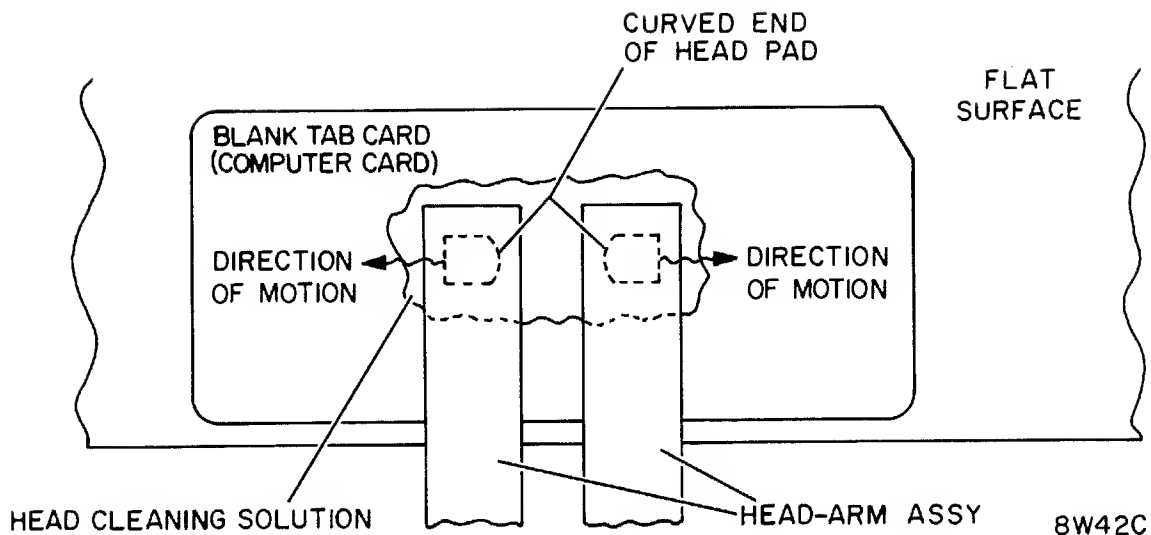

Figure 2-35. Head Cleaning Motion
Refer to figure 2-35 if head cleaning is required and perform the following procedure. Use care not to damage any part of the head arm assembly.
3. Place a blank tab card (see list of Maintenance Tools and Materials) or a new, unpunched, clean computer card with the back side up (printing down) on the clean flat working surface as shown in figure 2-35.
5. Very carefully place the head pad flying surface on moistened area and move head pad from moistened area to dry area in a zig-zag motion as shown in figure 2-35. Move head in a direction away from curved end of head pad. If it is moved in the opposite direction the sharp edge of the curved end will cut into the computer card and prevent movement and proper cleaning.